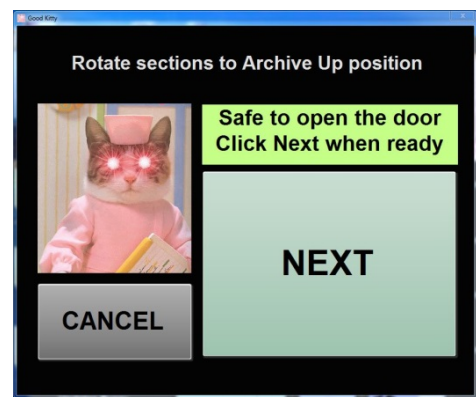
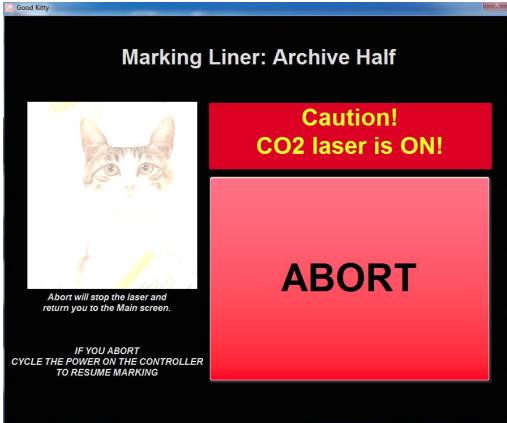

Figure 11. Next button for beginning the engraving of the Archive half.
Figure 12. Marking Liner: Archive Half Abort button
6. When marking is complete the door will unlock and a NEXT button will appear (Figure 11). Do not select next!
10. Press the **NEXT** button (Figure 11). Laser will begin to engrave Archive Half and a new abort button will appear (Figure 12).